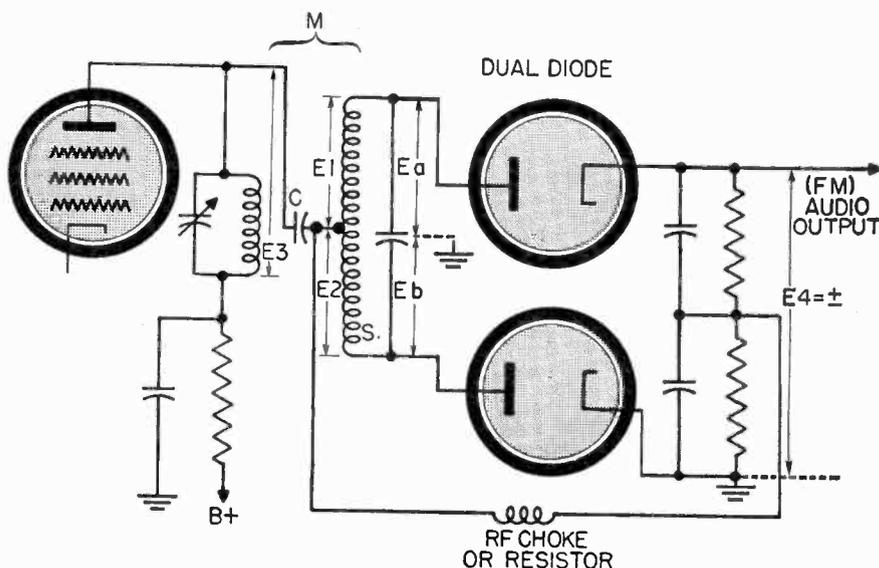

Fig. 9 Shown above is the Foster-Seeley type of discriminator.
The most popular of discriminator circuits is the second or Foster-Seeley circuit (Fig. 9). This circuit depends upon the phase difference which exists between the primary and secondary circuits in loosely coupled (M) double tuned circuits at the resonant frequency. A 90° difference exists between two double tuned circuits at resonance, and this angle varies as
Fig. 11 The above vectors graphically illustrate the electrical changes which take place in the discriminator circuit as the frequency is varied from one side of resonance to the other. The voltages represented are shown in Fig. 9.